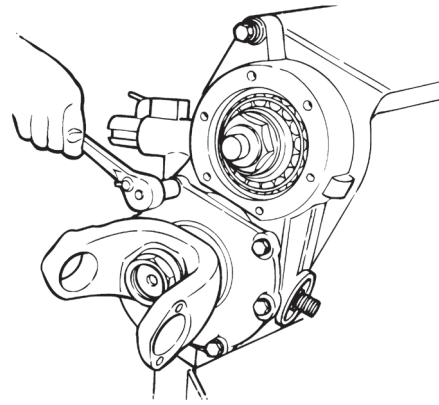

Figure 3.21
5. Remove the capscrews and washers that fasten the bearing cage to the input shaft to differential cage. Figure 3.21.